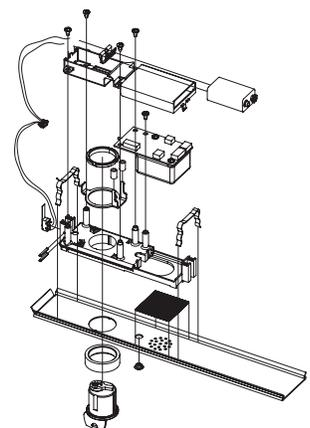

Figure 13
4. Operate cylinder and verify cam is operating switch properly (Figure 13).